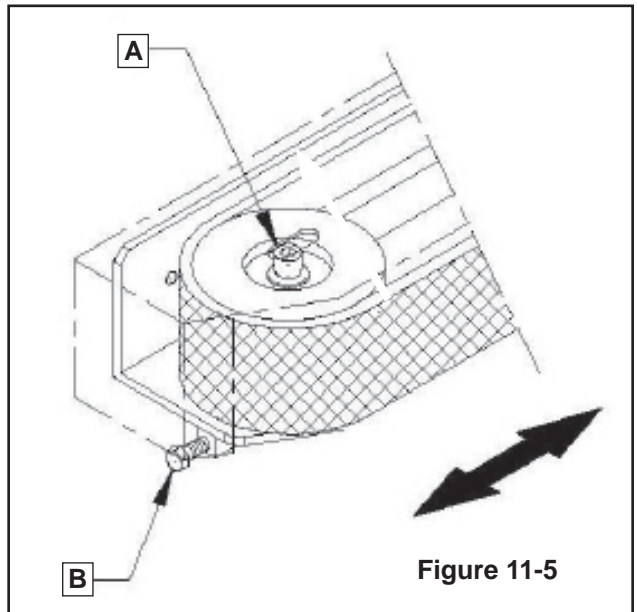

Figure 11-5
5. Lift the lower taping head straight up to remove it from the case sealer bed (Figure 11-5).
Refer to **Figure 11-5** and adjust belt tension as follows (for belt replacement and tension specifications - refer to **Section 13 / Maintenance and Repairs**):